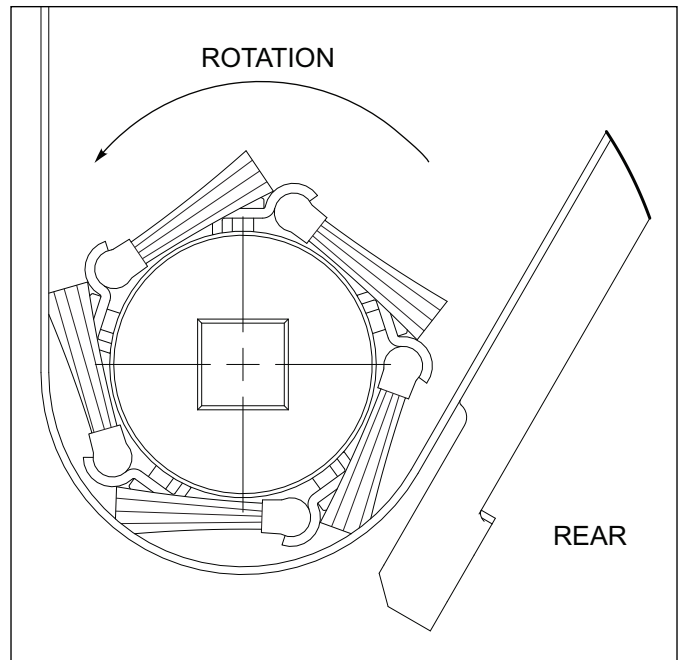

Figure 2-36: Shaft Rotation
Before proceeding with brush agitator installation, be sure to determine the direction of shaft rotation on your particular seeder model. Direction of rotation is not the same on all models due to transmission differences. Check seed compatibility, not all varieties work with brush agitators. Mixtures containing clover, alfalfa, timothy or other small seeded varieties will destroy brushes. See Figure 2-36.
3. See the above Shaft Rotation diagram. See Figures 2-36 and 2-39. Brush/Blade agitators must be installed with careful attention to the direction of shaft rotation. The brushes must face backward, away from rotation to wipe over the seed openings.